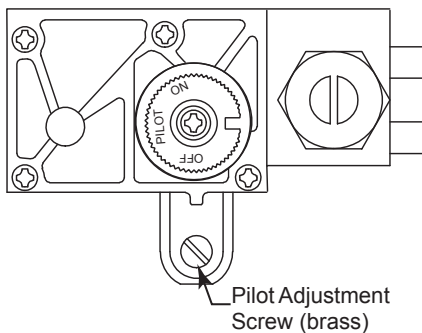

Fig. 16 Pilot adjustment. Clockwise decreases flame;
5. If pilot flame is too large, noisy, or too small, it can be adjusted with the pilot adjustment screw by removing the two screws from the front cover of the valve box. See Fig 16.